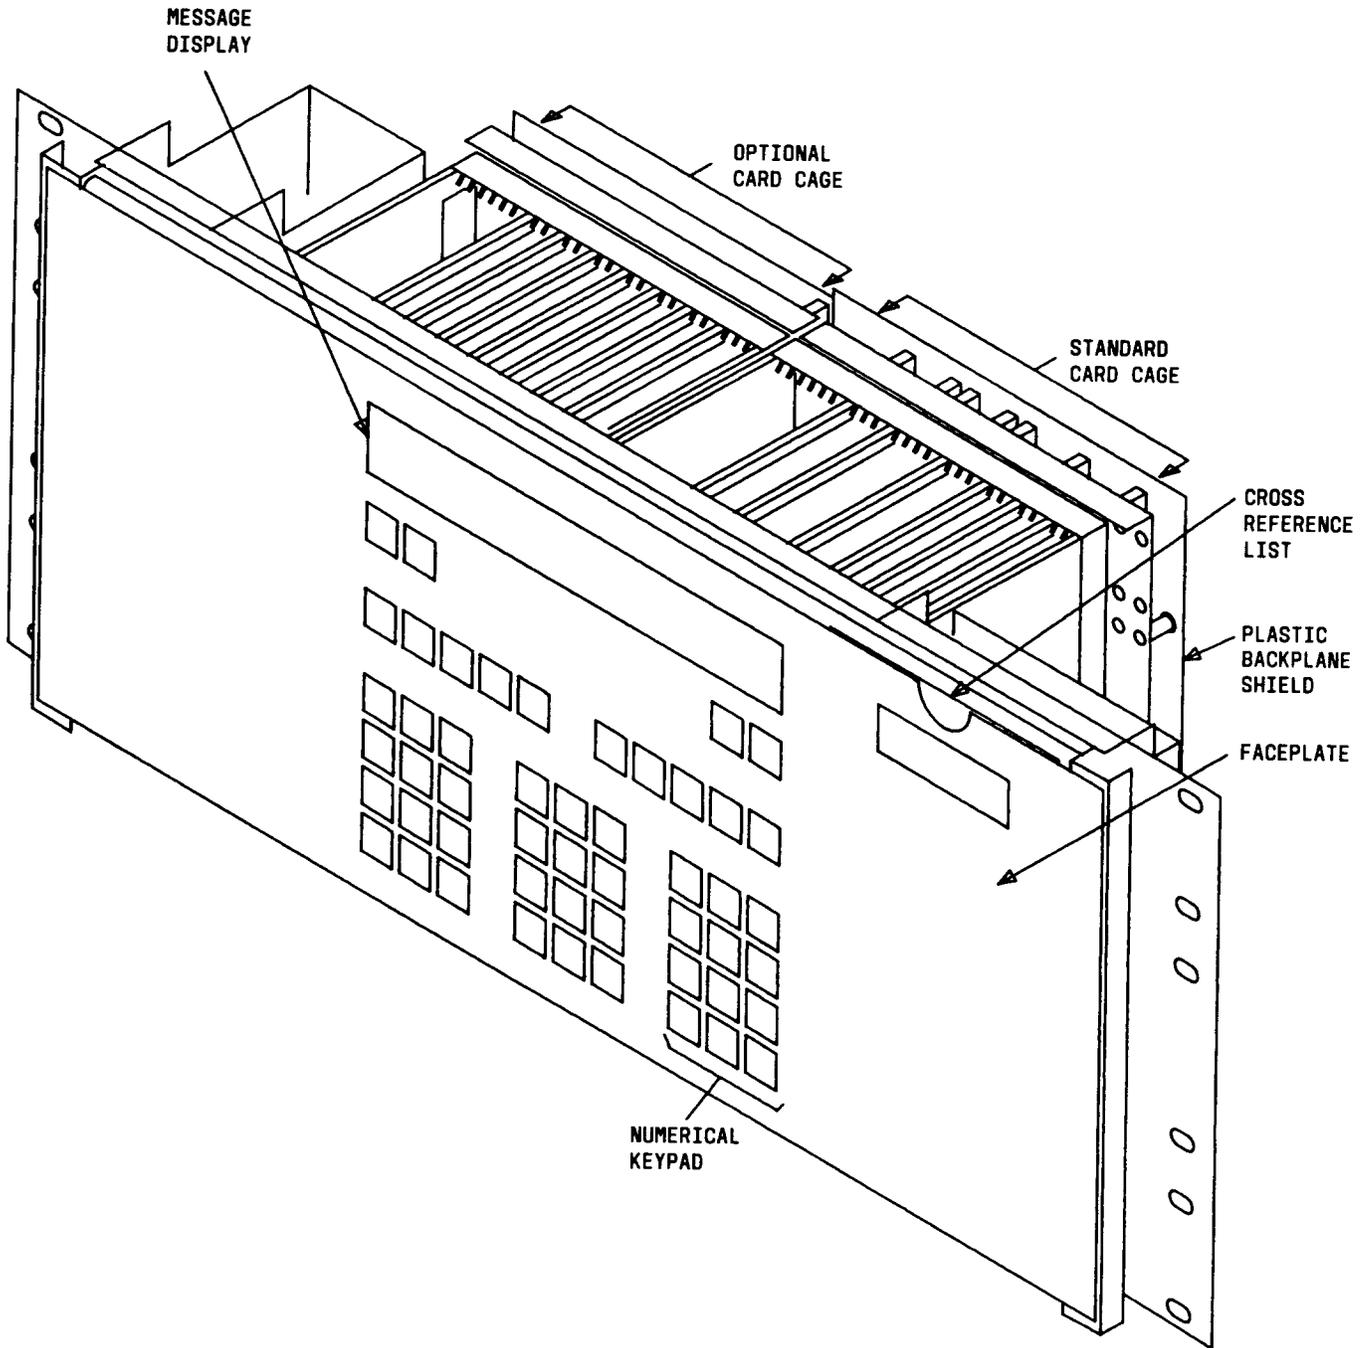

Fig. 2—Smart Plant Controller
2.02 The power plant controller for the smart plant (Fig. 2) measures 9 inches high, 26 inches wide, and 12 inches deep. The front panel contains a 40-character, single-line alphanumeric vacuum fluorescent display (VFD). Red membrane switch pads are used to access major alarm information. Yellow membrane switch pads are used to access minor alarm information. A blue membrane switch keypad (numeric keypad) is provided to enter rectifier or feeder number(s), to perform alarm cutoff (ACO), and to set the system 24-hour clock. Gray membrane switch pads are used to access various standard and optional plant feature functions.